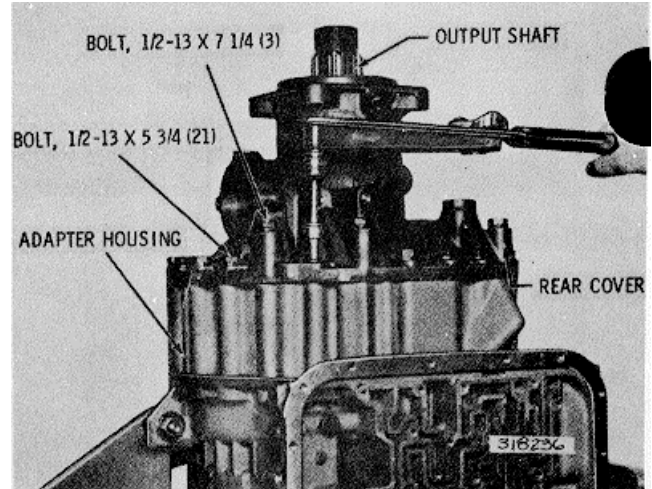

Fig. 7-21. Installing rear cover bolts
(3) Remove the thirteen low clutch plates from the adapter housing. (Refer to figure 7-21.) Since these plates are preset for the low clutch running clearance, they should be maintained in a package form so they cannot be intermixed with other plates.
(4) Install twenty-one 1/2-13 x 5 3/4-inch bolts and three 1/2 -13 x 7 1/4-inch bolts, and washers, to retain the rear cover (fig. 7-21). Tighten the bolts to 67 to 80 pound feet (90 to 108 Nm) torque.